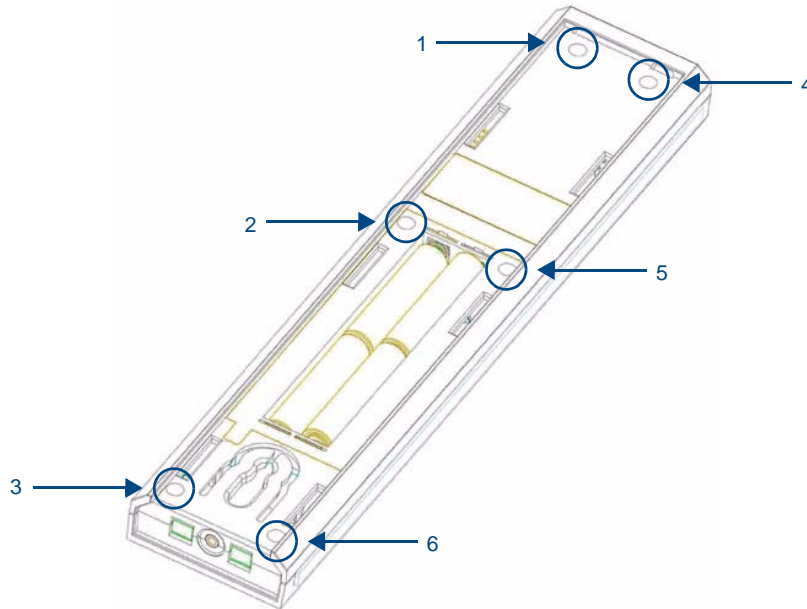

FIG. 14 6 screwpoints (battery compartment cover removed)
3. Unscrew the 6 screw points indicated in FIG. 14.